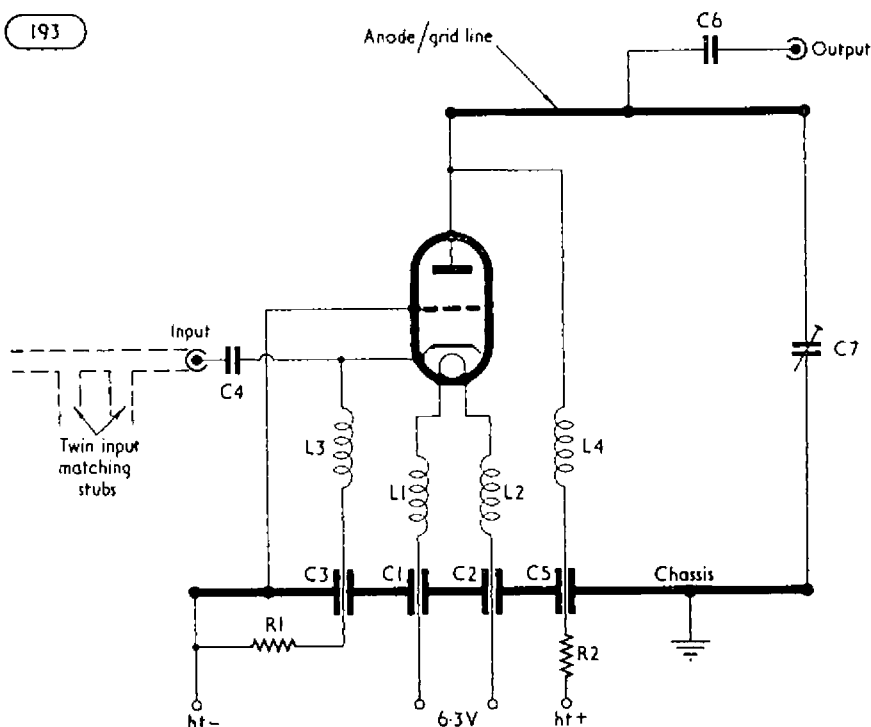

Fig. 1. Circuit of the 900 Mc/s Amplifier. Component values are as follows :
**Class A. Grounded Grid Amplifier at 900 Mc/s.** (Fig. 1)